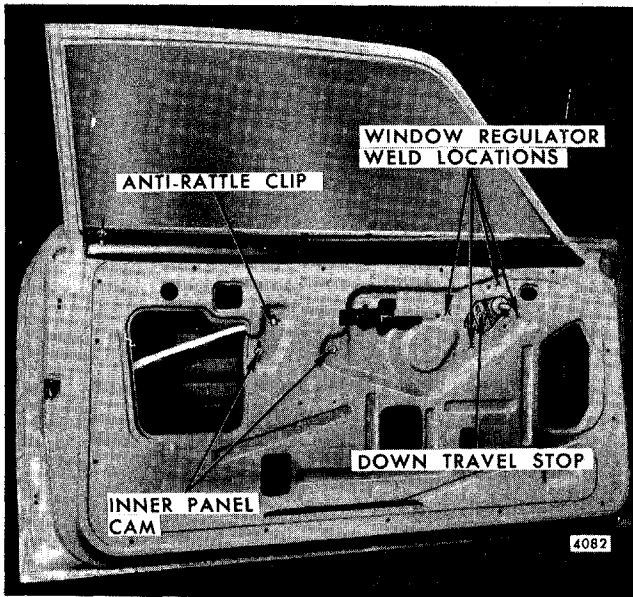
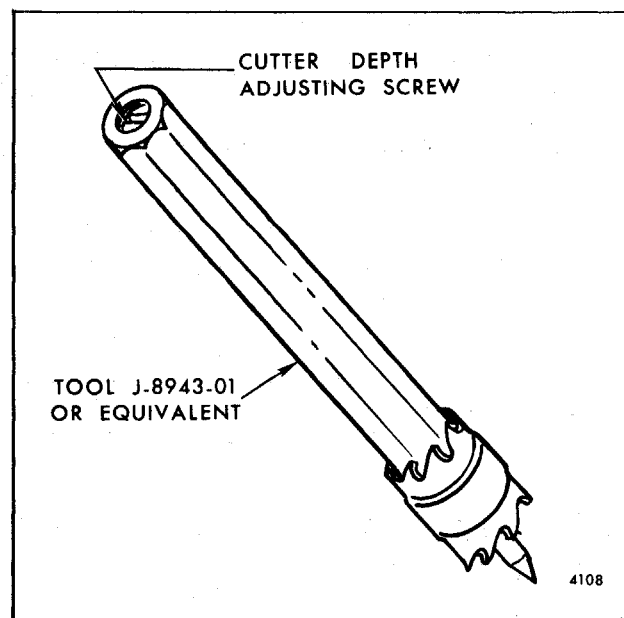

Fig. 5-129-Window Removal and Adjustment - Typical Door for "H" and "X" Styles
Fig. 5-131-Spot Weld Cutter
The inner panel cam (Fig. 5-129) is adjustable and can correct a rotated (cocked) window assembly.
"H-07, 27" styles do not have an adjustable down stop. To adjust down-travel on other styles, loosen stop (Fig. 5-129 - "H-11, 15, 77" styles; Fig. 5-85 - "X" styles) and adjust glass to desired height at
2. Lower window to half-down position and remove inner panel cam (Fig. 5-129).
3. Center punch visible window regulator weld marks on door inner panel (refer to Fig. 5-129 for location). Using a spot weld cutter, tool J-8943-01 or equivalent, drill out each weld (Fig. 5-131).